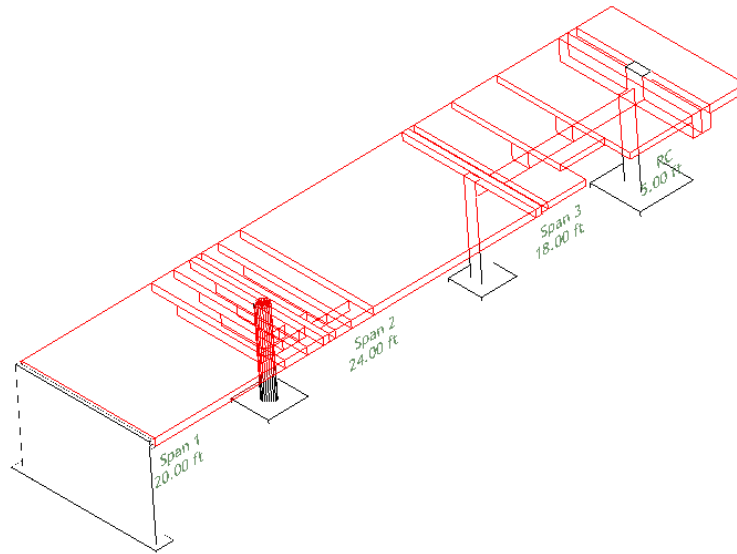
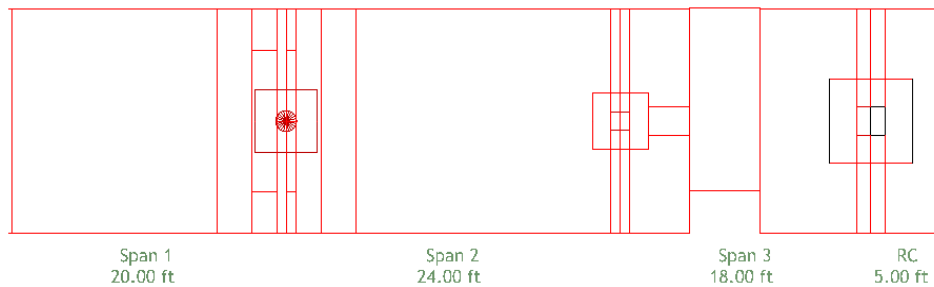

FIGURE 5.3-4
FIGURE 5.3-5
5.3.2.1 Enter Span Geometry (Fig. 5.3-4 -14)
Since the structure is non-prismatic, you have to enter the data for all the segments in each span. **Figure 5.3-4** and **Figure 5.3-5** are the 3-D and top perspective views of the model showing the subdivision of the system based on change in its cross-sectional geometry. The structure includes 8” (203 mm) wall at the first support, 18” (457 mm) diameter circular column with drop cap and drop panel at the second support, 16” (406 mm) square column with a longitudinal beam at the third support, 24” (610 mm) square column with a transverse beam at the fourth support and 5’ (1.52 m) cantilever beyond the last span. The cross-section changes at the face of the drop cap and drop panel, and at the face of the transverse beam. Also the tributary width changes in the third span. You have to enter the data for each segment individually.